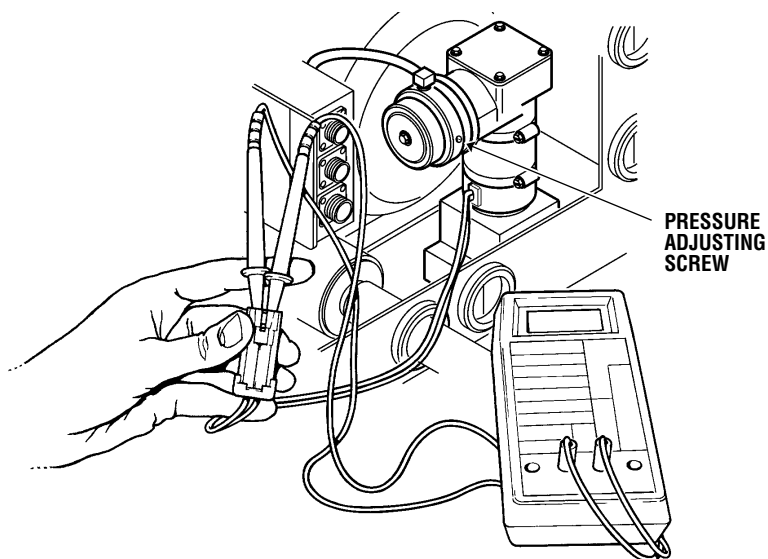

Figure 5-21 Compressor Test
- b) Motor for internal short. (See Figure 5-21 and Test Procedure)